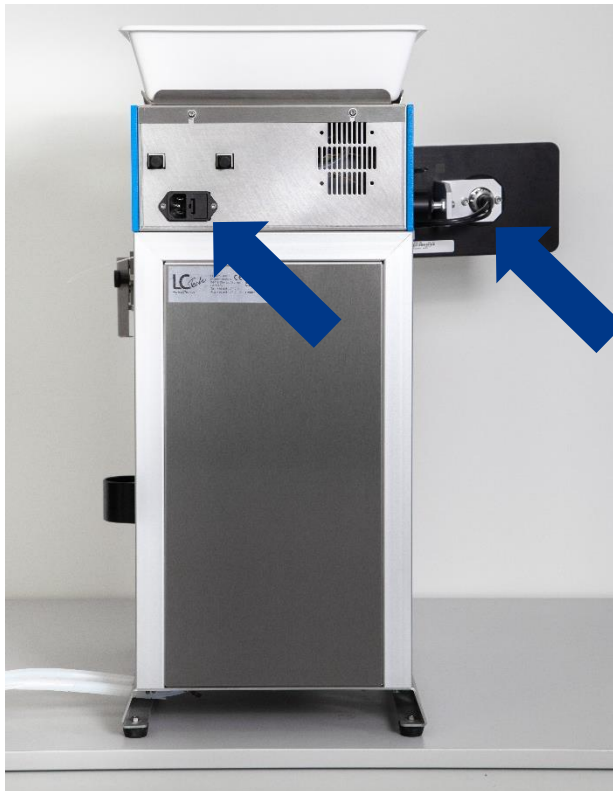

Figure 101: Power supply X-TRACTION.
- Check the power supply (220-240 Volt AC), Figure 101.